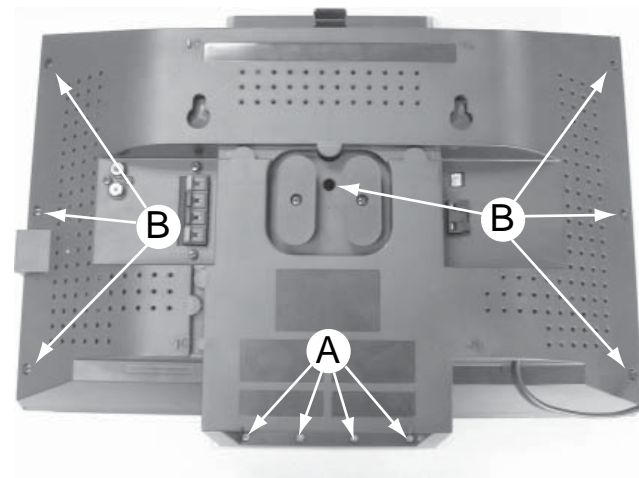

Figure 1
- 1) Loosen 4 screws A to remove the Front Panel Ass'y by sliding it out towards the underside before lifting up as shown in Figure 1.